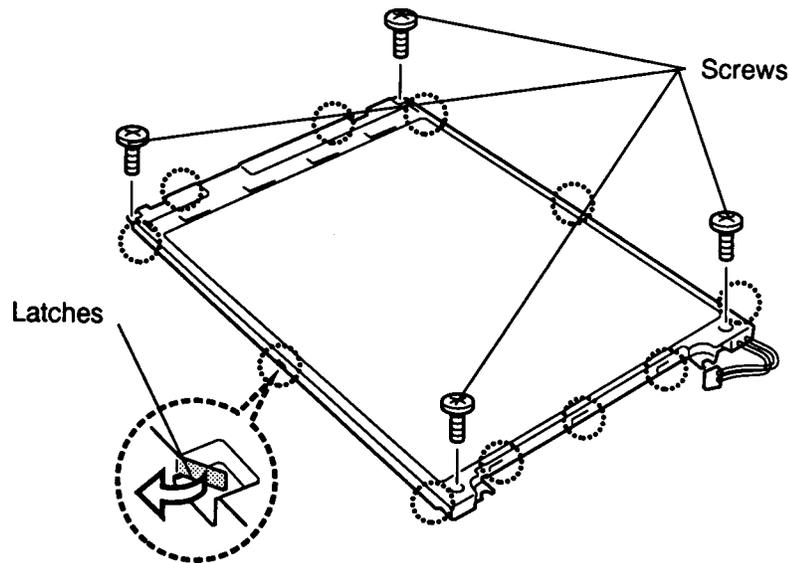

Figure 4-26 Unbending the color LCD module latches
To remove the T2100CS's FL, follow the steps below and refer to Figures 4-26 through 4-29.
3. Release **11 latches** securing the **LCD module** to its frame (Figure 4-26).
4. Turn the **LCD module** over and remove **four screws** (Figure 4-26).
To install the T2100CS's FL unit, follow the steps below and refer to Figures 4-26 to 4-29.
8. Set the LCD module in its frame and secure it with four screws (Figure 4-26).